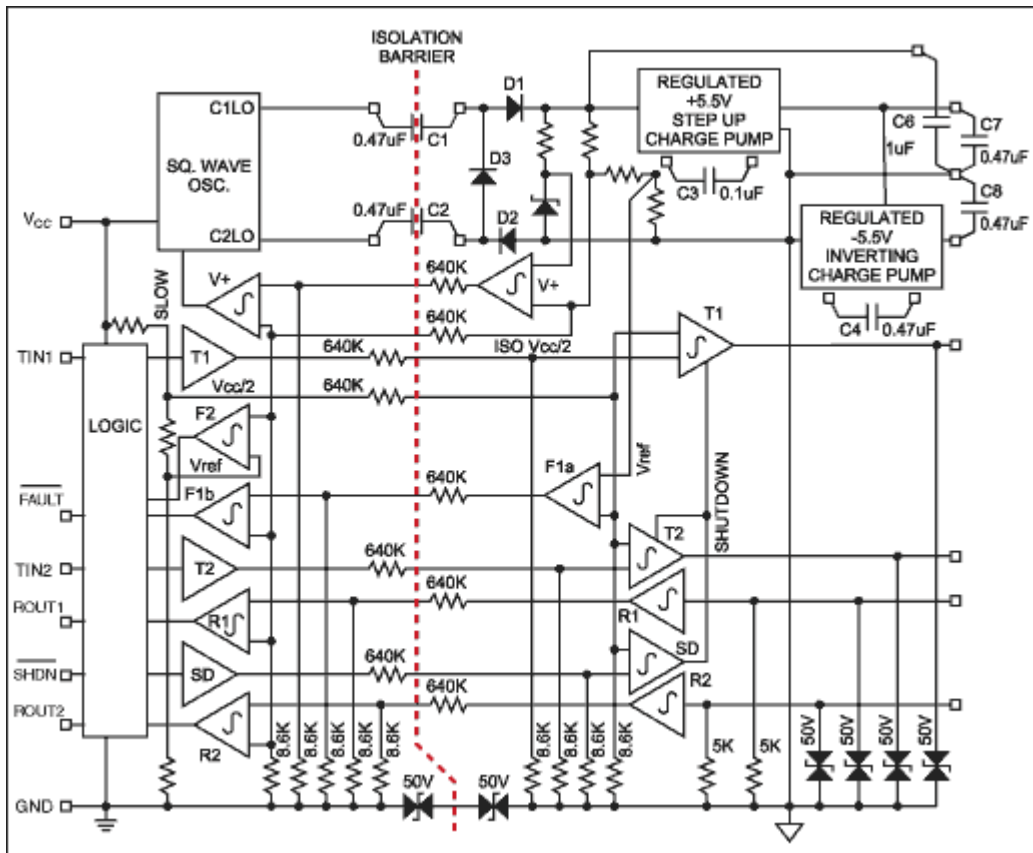
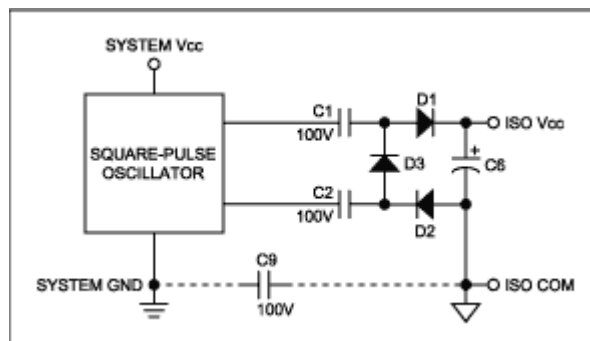
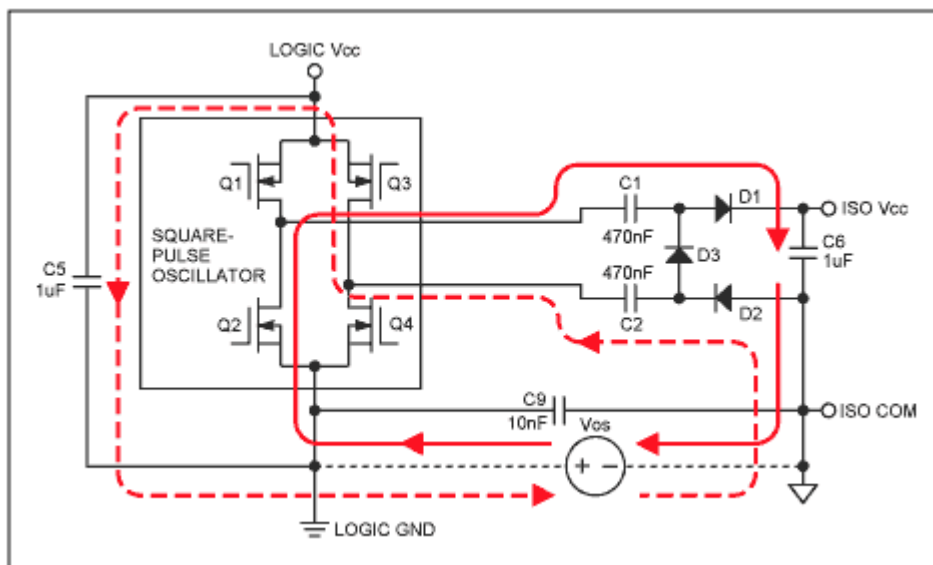

Figure 1. MAX3250 functional block diagram
Figure 4. Capacitor-coupled isolated supply
Figure 7. Equivalent charge transfer circuit showing possible reverse pumping paths for  $V_{OS}$
The MAX3250 provides a  $\pm 50V$  isolated data interface while, in the same IC package, providing isolated power for the line-side transceiver circuits from a single +3 to +5.5V system power source. The detailed functional diagram in Figure 1 allows a clear visualization of the isolation, power-transfer, and protection circuits. External filter, charge-pump, and power-transfer capacitors are utilized.
Note that there is a resistance between ISO COM and system GND (see Figure 1) due to the existence of nine sets of isolation resistors. The approximate parallel resistance of these nine attenuators is 72kΩ.
Unless a separate isolated power supply is available to operate the isolated RS-232 transceiver, power must be transmitted from the system or non-isolated side to the line or isolated-side circuits without destroying the required isolation. It is a practical matter to use capacitive voltage transfer across the isolation barrier when the planned isolation is no more than 50-100V. Higher voltages can be isolated; but the required capacitors become somewhat large at, say, 500V. Capacitive power transfer can be accomplished by differentially driving a pair of capacitors from a square-wave oscillator on the system side as indicated in Figure 4. The external capacitors feed three diodes and a filter capacitor on the isolated side to produce an isolated DC output. The third diode is present to allow recharging/discharging of the coupling
The isolated-supply power-transfer system operates somewhat like the well-known charge pump. The square-wave oscillator reverses its output polarity (0 or +5V) on alternate half cycles of operation. Its output is always a square wave (50% duty cycle), but (in the MAX3250) its output resistance increases on command (via a return feedback path visible in Figure 1) when ISO VCC reaches its design voltage. Thus, it operates to provide either normal or reduced power transfer to the isolated supply. As the line-side load draws down the voltage on C6, the feed-back signal will again cause the oscillator to more effectively replenish the charge on C6. The output voltage is thus under active regulation, with some ripple on the output at a ripple frequency depending upon the actual load. A Zener diode on the output side acts as a voltage reference against which a fraction of the output is compared to drive the control signal that is sent back across the isolation barrier to the oscillator. The charge pump injects noise currents into the ISO COM terminal to create a noise voltage on ISO COM whenever ISO COM is not connected to system GND. Hence, ISO COM should be bypassed to system GND with a 10nF capacitor (C9 in Figure 4). There are two additional regulating charge pumps driven by ISO VCC to create regulated ±5.5V supplies for the RS-232 drivers and receivers.
### Control and Data Transfer Across the Isolation Barrier (refer to Figure 1)
1. The charge-pump isolation-voltage limit is set by the breakdown rating of capacitors C1, C2, and C9 (see Figure 4).
The maximum applied offset voltage is dependent on frequency and the value of the power coupling capacitors (C1 and C2 in Figures 1 and 4). The dependence on C1 and C2 is due to a reverse pumping action caused by high levels of ground offset voltage. This means that there are different limits to  $V_{OS}$  when the circuit is powered by 3.3V or 5V supplies because C1 and C2 must be 470nF for 3.3V supply whereas 47nF is allowed for a 5V supply.
The isolated supply of Figure 4 is redrawn in Figure 7 to include details of the square-pulse oscillator. Reverse charging paths are shown for  $V_{OS}$ -generated currents. When the  $V_{OS}$  polarity is as shown, a current, indicated by the solid line, will flow through Q2, C1, and D1 to charge C6. When the polarity is reversed, a current, indicated by the dashed line, will flow through D2, C2, and Q3 to charge logic-bypass capacitor C5.
A feature of the MAX3250 is a fault-condition flag output indicating when the device's isolation limit has been exceeded. The operation may be understood by reviewing the block schematic of Figure 1. Comparators on each side of the isolation barrier, F1a and F2, each compare a locally-generated reference voltage with the attenuated  $V_{CC}/2$  reference from the opposite side of the isolation barrier. References are chosen such that the attenuated equivalent of a 55V isolation voltage is recognized. One comparator recognizes a positive offset, and the other recognizes a negative offset. Outputs from the two comparators are logic ORed together to produce a fault signal whenever the difference between the logic common (GND) and ISO COM terminals exceeds  $\pm 55V$ .